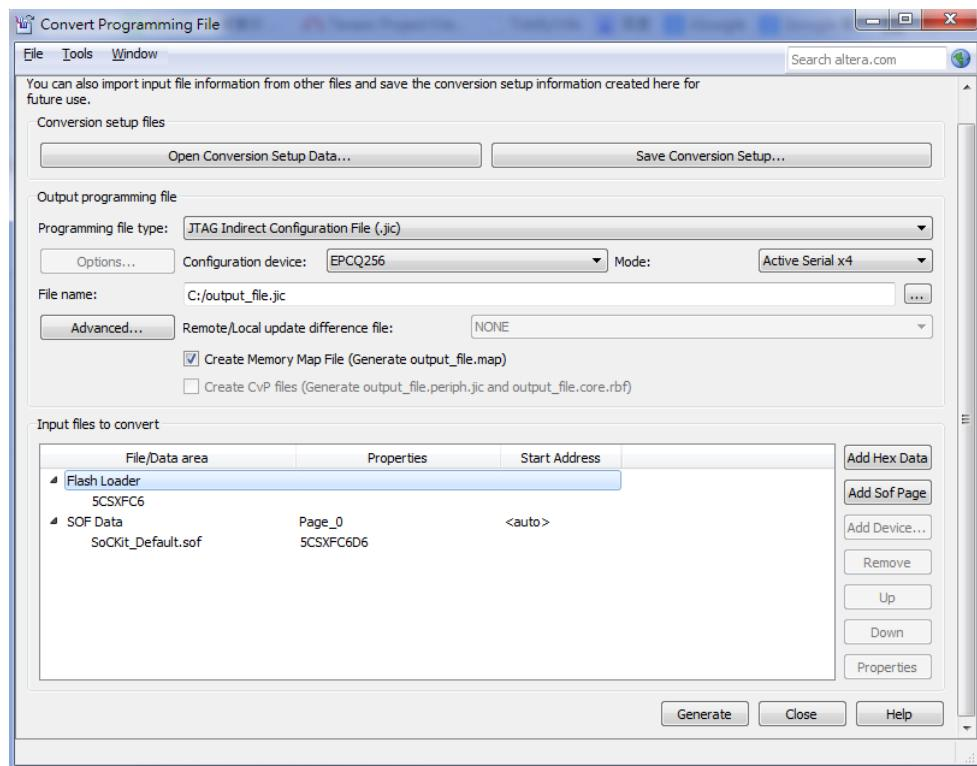

Figure 6-5. Convert Programming Files Page
13. Click OK. The **Convert Programming Files** page displays. See **Figure 6-5**.